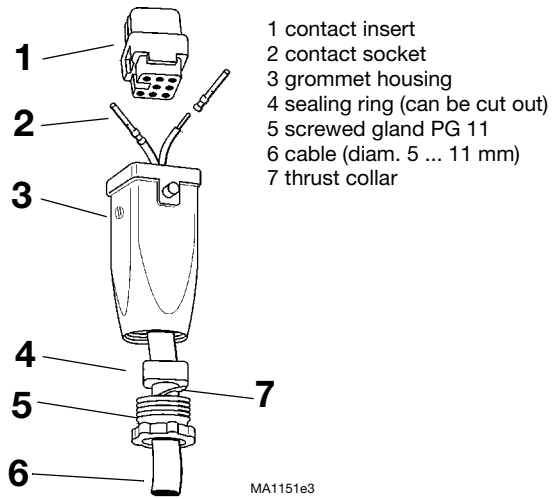

Figure 5. Mounting of the socket connector
**Installation (see Figure 5):**